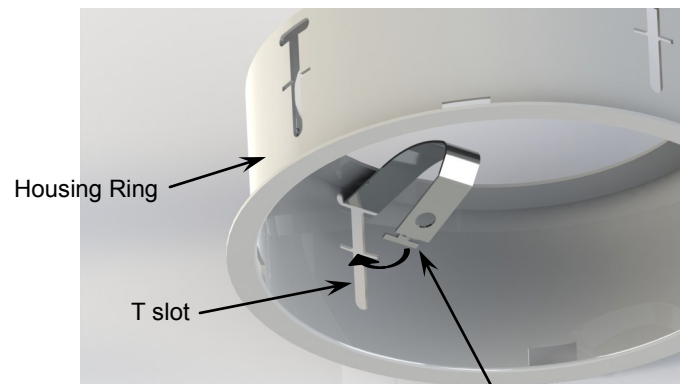

Figure 2
3. Insert plaster flange springs into housing ring. From inside of ring insert tip of spring into large portion of "T" slot, squeeze spring until "T" form of spring can snap through slot opening of "T" slot. (see Figure 2)